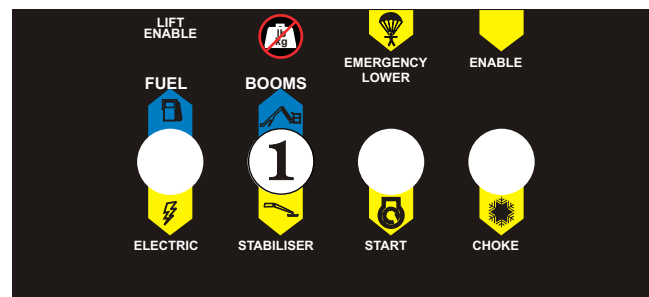

Figure 10.5 - Set Stabiliser/Boom Switch
Ensure the Boom/Stabiliser Switch (item ① on the ground control box) (see Figure 10.5) is set to stabiliser.